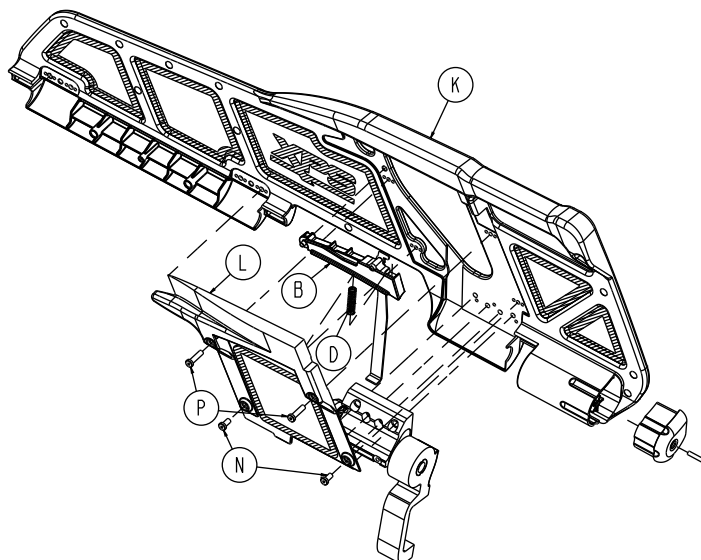

Figure 50 – Release/spring handle assembly components (XPS)
5. Using a 3/32" hex wrench, remove the four socket head cap screws (N and P) that secure the release cover (L) to the overmold assembly (K) (Figure 50). Remove and save the release cover. Save the screws.
6. Using a small slotted screwdriver, pry the handle spring (D) up. Remove and save the spring.
7. Grasp the handle assembly (B) and lift the handle spring side to remove from the cover. Discard the handle assembly.
6. Using a small slotted screwdriver, pry the handle spring (D) up. Remove and discard the spring.